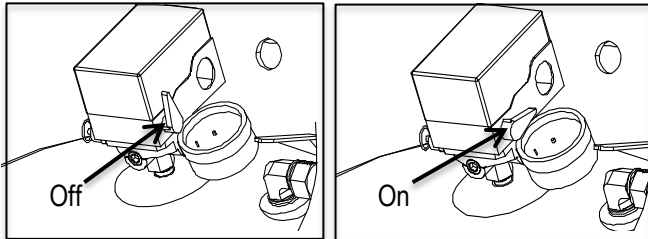

Figure 5
1. Verify that the pressure switch is in the OFF position. (Figure 5)